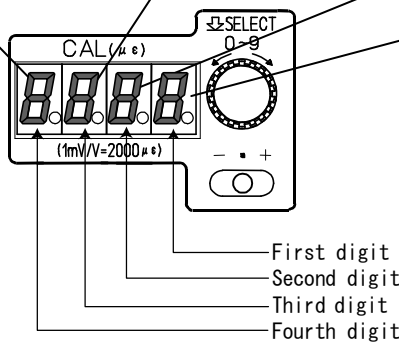

Fig. 2-3
The indicated value is calculated value based on input. The value can be set from $1\mu\epsilon$ to $9999\mu\epsilon$ by a step of $1\mu\epsilon$ ($=10^{-6}$). Values should be set for each digit (Fig. 2-3). Pressing calibration value setting knob ⑫ (Fig. 2-3) turns on the fourth digit of calibration value LED ⑬. Turning the switch changes the value on ⑬. Even the indication is blinking, the setting is being made.